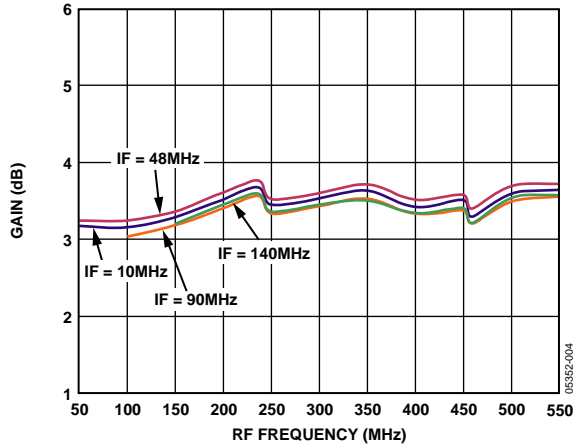

Figure 3. Conversion Gain vs. RF Frequency
The AD8342 is designed to downconvert radio frequencies (RF) to lower intermediate frequencies (IF) using a high or low-side local oscillator (LO). The LO is injected into the mixer core at a frequency higher or lower than the desired input RF. The difference between the LO and the RF, $f_{LO} - f_{RF}$ (high side) or $f_{RF} - f_{LO}$ (low side) is the intermediate frequency, f_{IF} . In addition to the desired RF signal, an RF image is downconverted to the desired IF frequency. The image frequency is at $f_{LO} + f_{IF}$ when driven with a high side LO. When using a broadband load, the conversion gain of the AD8342 is nearly constant over the specified RF input band (see Figure 3).